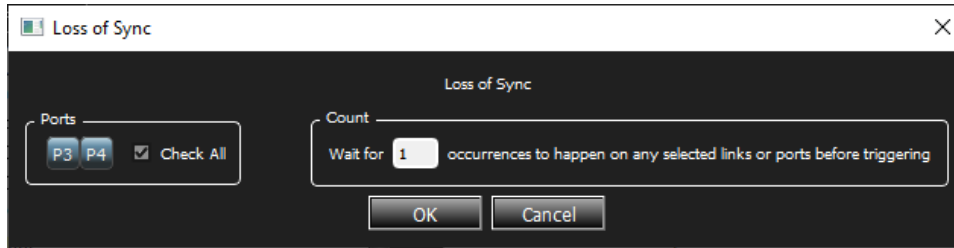

Figure 4.105: Loss of Sync Pattern Dialog Box
1. Double-click **Loss of Sync** to open the Loss of Sync dialog box (Figure 4.105).